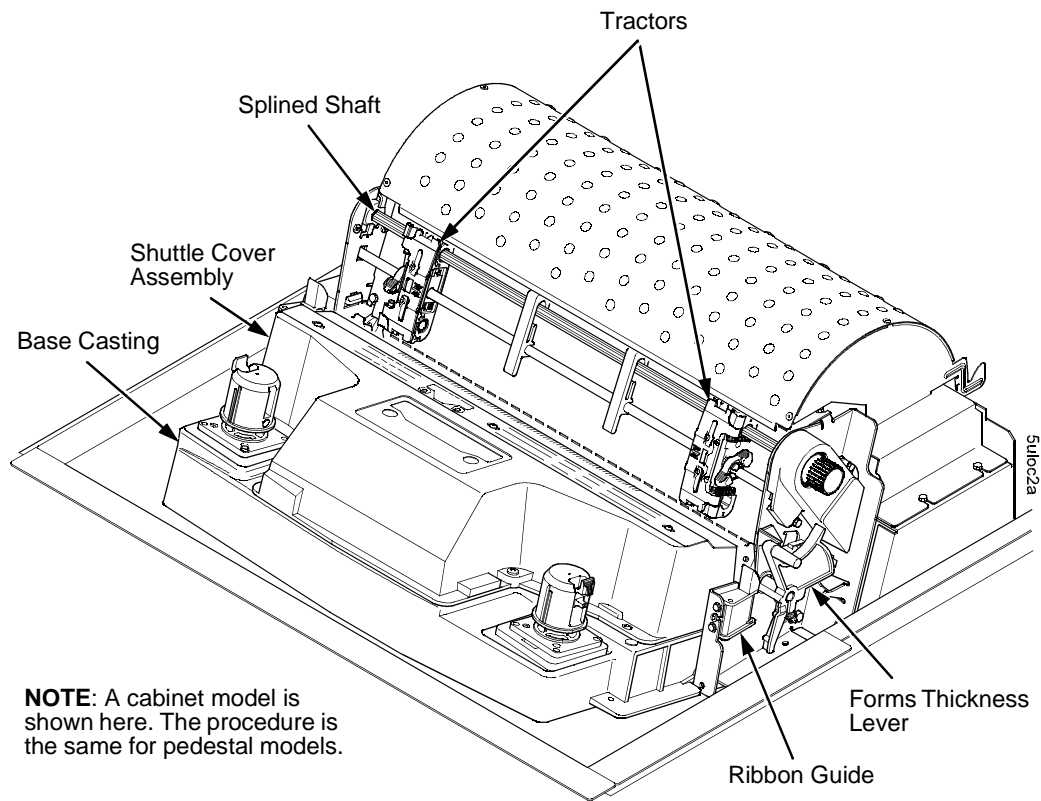

Figure 5. Cleaning Inside the Cabinet or Top Cover
7. Using a soft-bristled, non-metallic brush (such as a toothbrush), brush paper dust and ribbon lint off the tractors, shuttle cover assembly, base casting, and ribbon guides. Vacuum up the residue. (See Figure 5.)